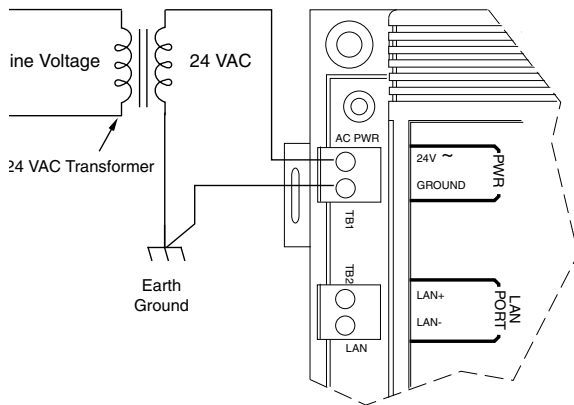

Figure 8. Power Connections
1. Connect the 24 VAC input lead from a separate, isolated 24 VAC transformer to TB1 – 1 (24 VAC, see Figure 8).